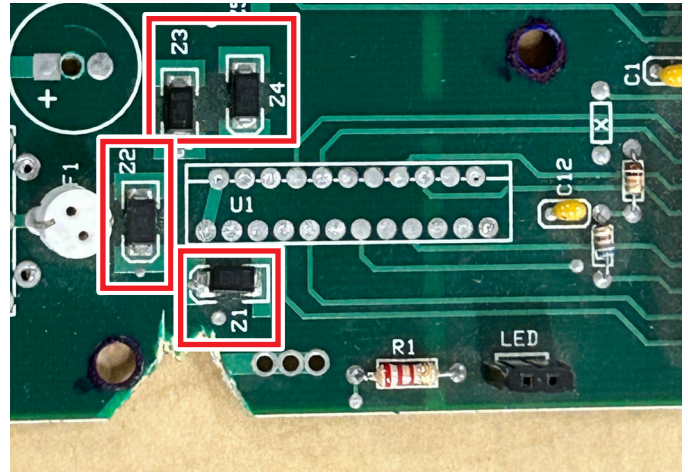

FIGURE 17
11. Another possible problem is that one or more diodes may be bad. Check for burn marks around the diodes and see if they look like they may have blown (see Figure 17).